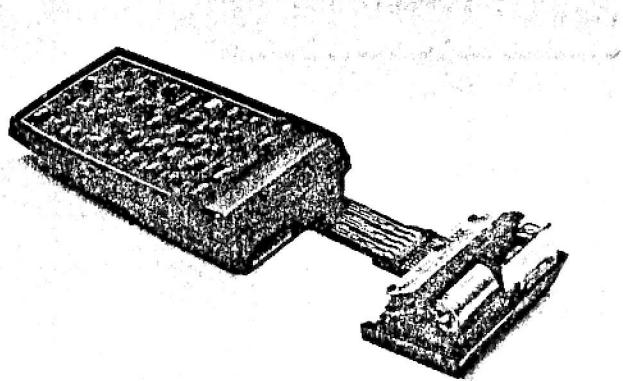

Figure 4-2. Test Setup
- Connect the card reader to the port extender. (See figure 4-2.)